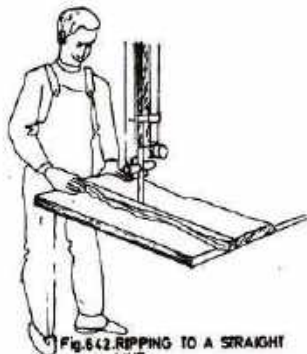

Fig.642. RIPPING TO A STRAIGHT LINE
4. Now feed the lumber slowly through the saw. Guide it gently with one hand; push it with the other. Fig.642. Saw slightly on the waste side of the marked line.